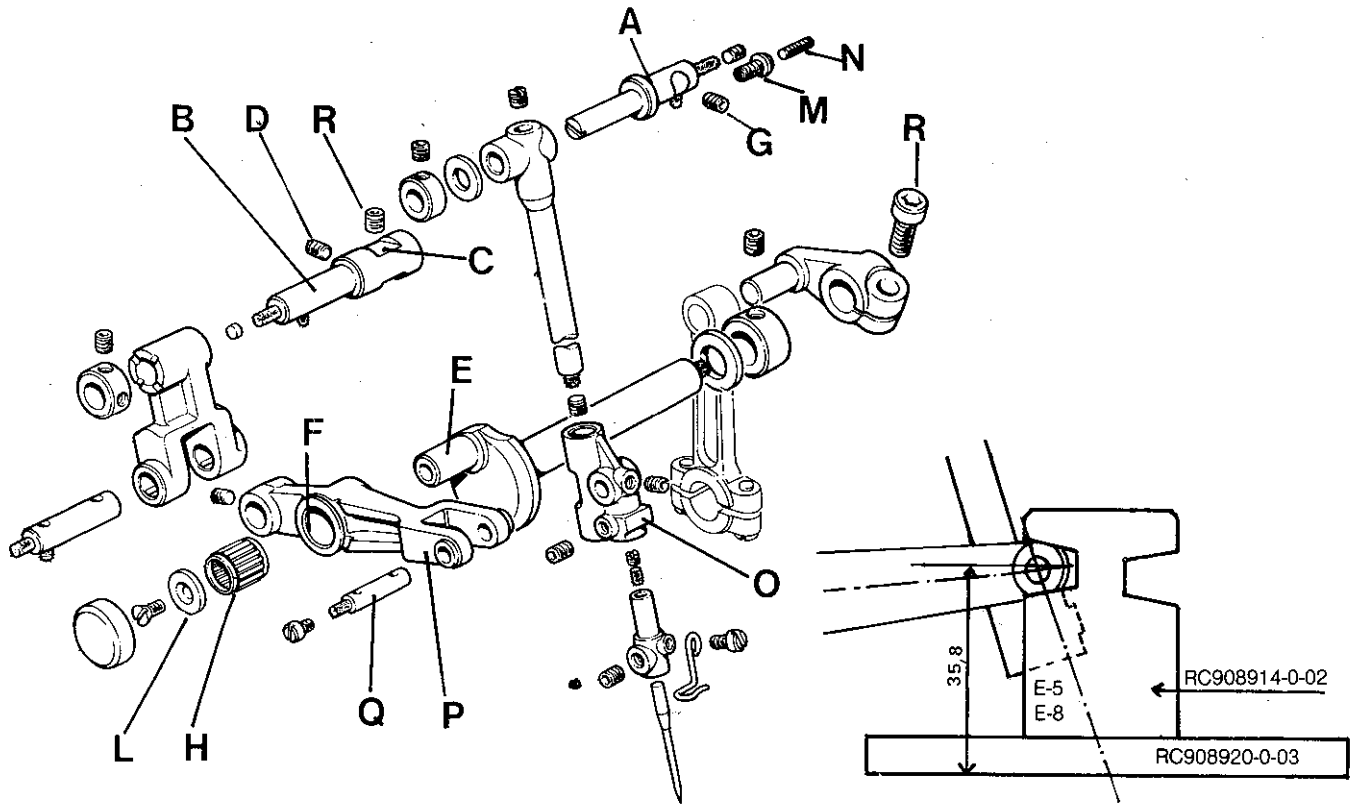
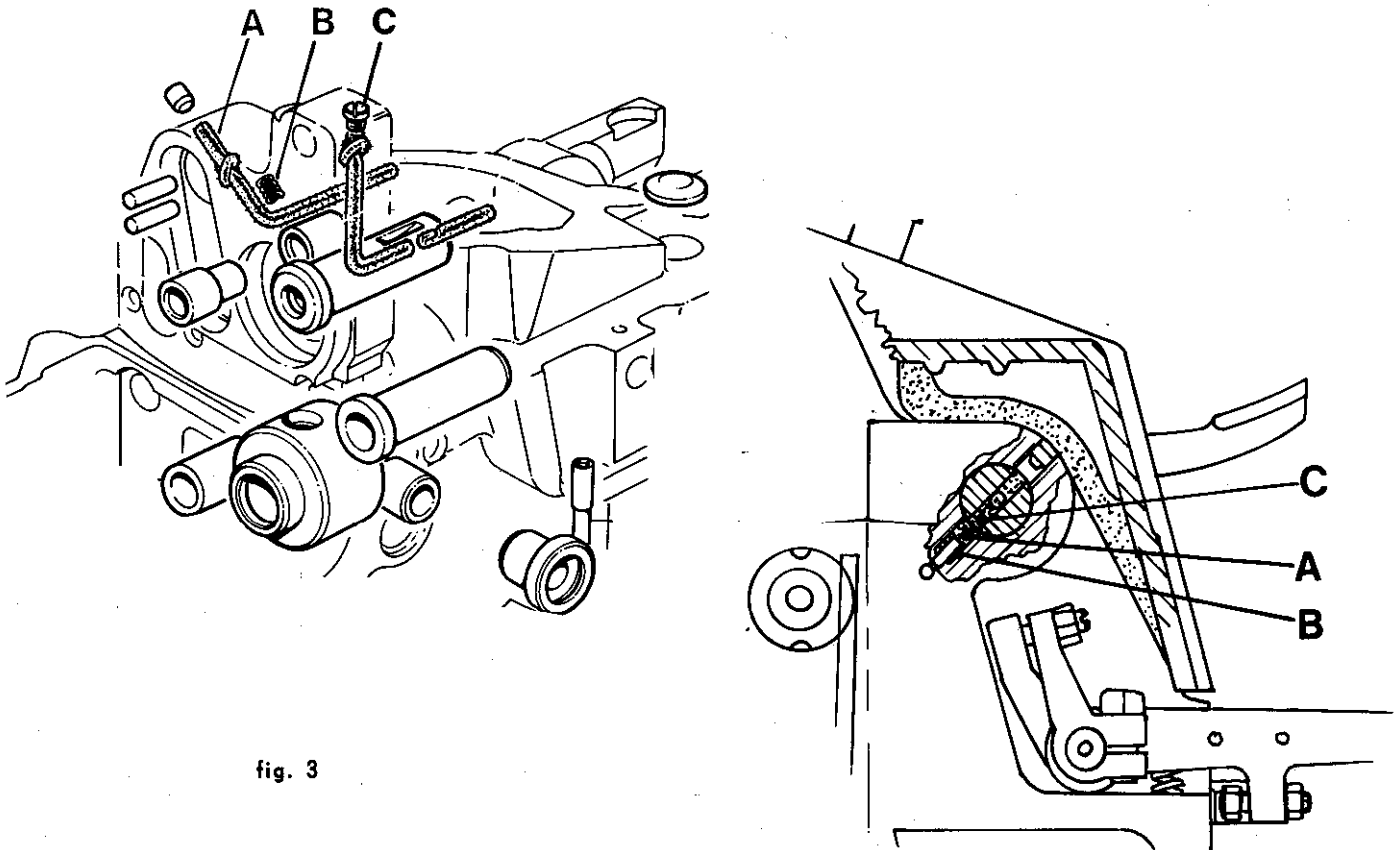
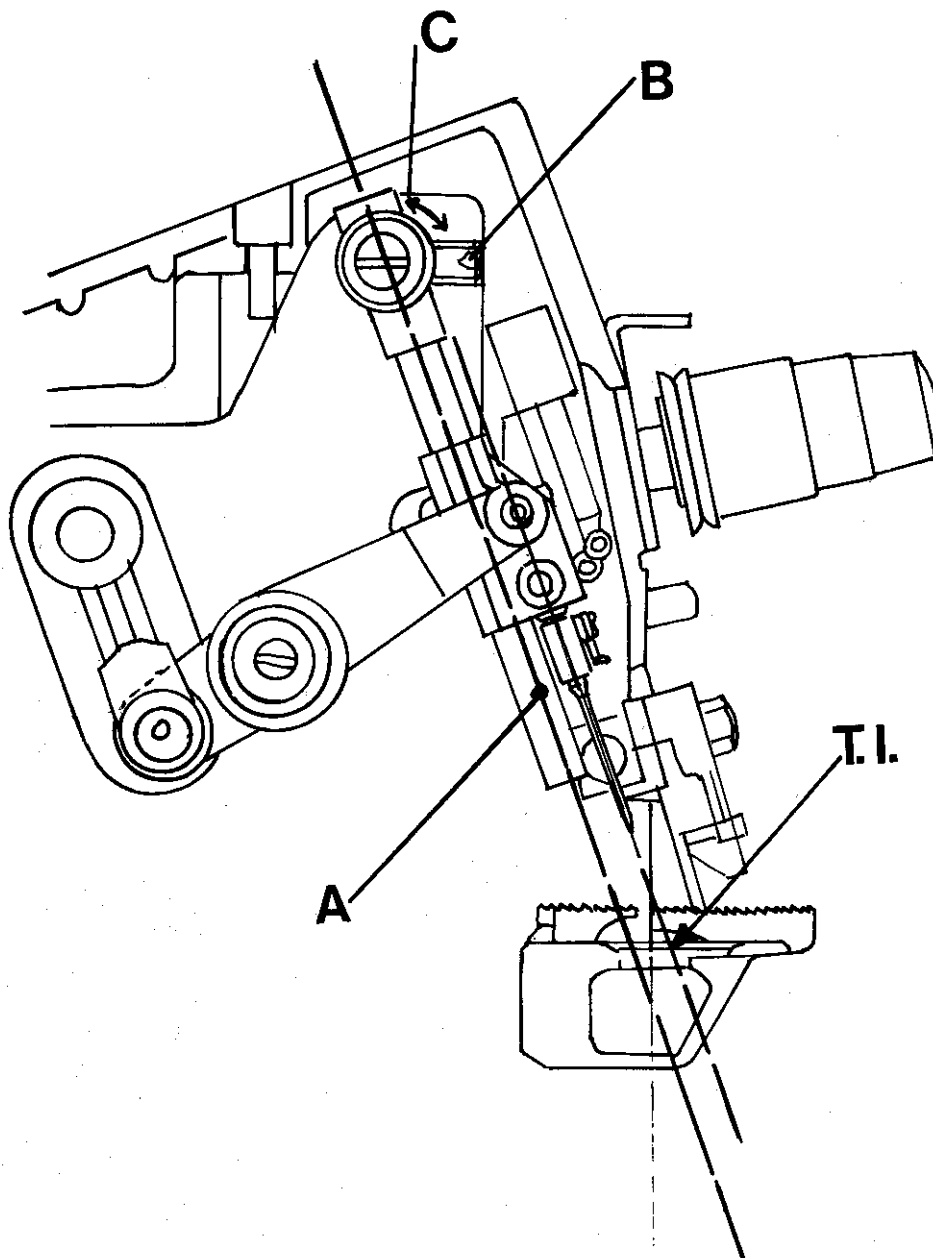

fig.2
fig. 3
fig.4
INSTRUCTIONS FOR SETTING ON AND ADJUSTING THE NEEDLE CONTROL MECHANISM (fig. 2)
- Arrange the needle control mechanism assembly (fig. 2) with pins A and B positioned as follows:
- a) bar support eccentric pin A with milled part turned towards the front of the machine. This positioning serves to orient the eccentricity of the pin towards the top and will permit subsequent insertion of screw C (fig. 3) which, keeping the orientation correct, will limit rotation of the pin to a useful bar-positioning sector.
- b) calibrator support pin B with plane C corresponding to screw D (fig. 2).
- Set pins A and B in their respective holes on the machine head, taking care to insert the button of hand control E (fig. 2) at the same time in the hole in lever F. When inserting calibrator pin B (fig. 2), lubricator wick A (fig. 3) must be pulled from the end inside the machine so that the other end is embedded in the spot-facing, pressing spring B (fig. 3) and thus permitting said pin to pass. Releasing wick A (fig. 3) spring B (fig. 3) extends, giving reliable lubrication contact between wicks A and C inside the pin.
- Center locking screws R - G (fig. 2) of the two pins and insert roller retainer H, taking care to choose the correct tolerance value, which should be that indicated on washer L (fig. 2).
- Tighten screw M (fig. 2) until it is right down on needle bar eccentric support pin A (fig. 2)
- Set the needle clamp slider to the correct height. When the slider is brought to its lowest position there must be a distance of 35.8 mm. (1.13/32") between the axis of pin Q (fig. 2) and the surface of plate RC908920-0-03 (fig. 2-inset). Adjustment is made by turning screw R (fig. 2).
Gauge RC908914-0-02 and plate RC908920-0-03 are used as shown in fig. 2 – inset, are a help in obtaining easy and accurate adjustment.
- Center the needle in the needle plate hole. The operation is made accurate and easy by screw M (fig. 2) which, being right up against the pin, offers the possibility of moving it just by screwing.
- Block screw M by fully tightening grub screw N (fig. 2)
- Center the needle clamp slider O (fig. 2) in the fork of lever P (fig. 2), dividing play equally, by moving pin B (fig. 2).
- Tighten locking screws D – R (fig. 2).
NEEDLE BAR ALIGNMENT (Fig. 4)
For aligning needle bar A (fig.4) to the needle movement trajectory T.I. (fig.4) special gauge (RC908920-0-03/RC979550-1-00) with dial comparator A (fig.5) is used, point B (fig.5) of which is positioned on the special extension C (fig.5) screwed to the bottom of the needle bar (see illustration). When the needle clamp slider moves from the bottom dead center point to the top dead center point or viceversa, there should be the least possible
Adjusting and checking is done by turning eccentric pin C (fig.4) in one direction or the other. After making sure that C is right up against screw M (fig.2), lock the pin with its screw B (fig.4).
This offers the possibility of orienting the rear needle guard so that the needles are correctly positioned in relation to the two internal planes. (see Fig. 2) Tighten the locking screw, taking care not to alter the height setting.